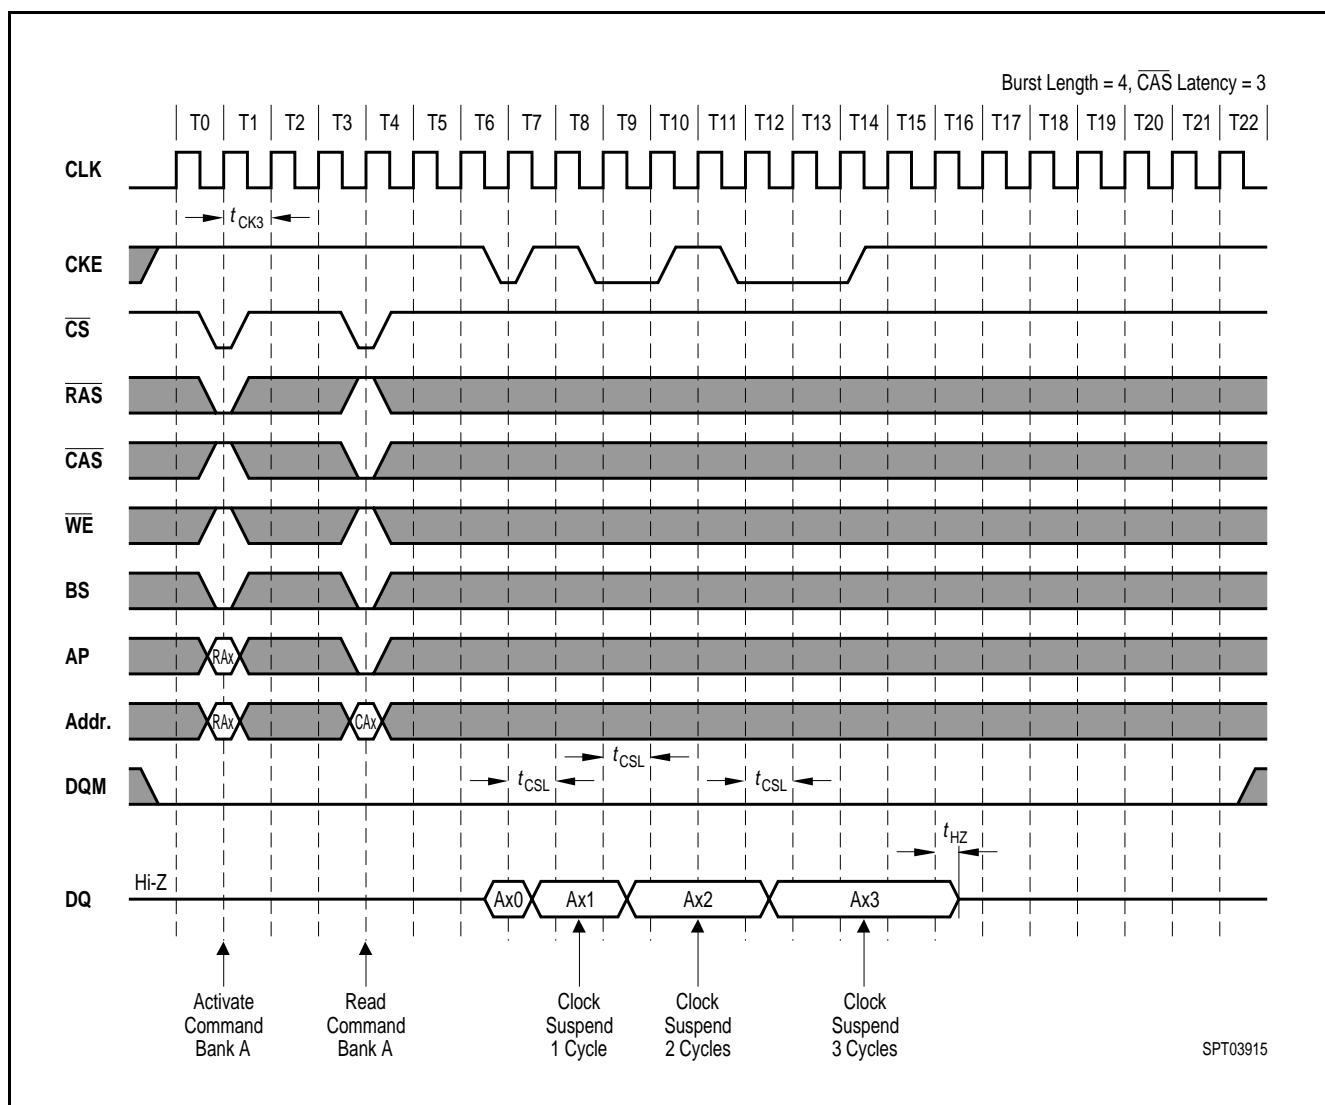

Figure 21 Clock Suspension During Burst Read CAS Latency = 3
- Figure 21 Clock Suspension During Burst Read CAS Latency = 3